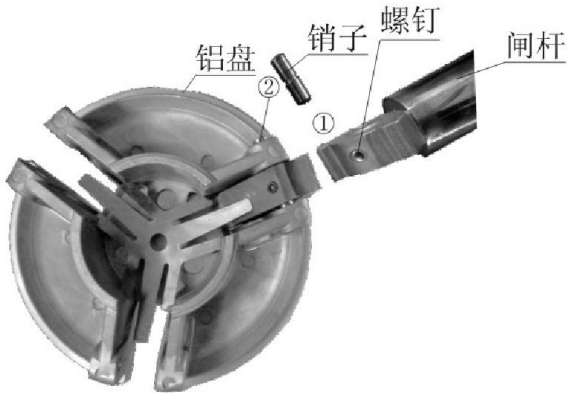

Figure 1
2. brake lever assembly (see Figure 1)